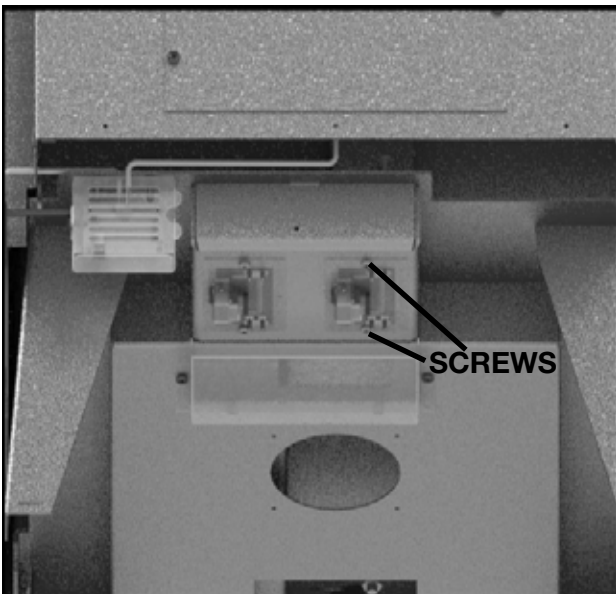

Figure 17: Motor Control assemblies
4. Remove the two screws securing the Motor Control Assembly to the Control box and lower the Motor Control Assembly being careful not to damage the gasket(part #80002849). Figure 17